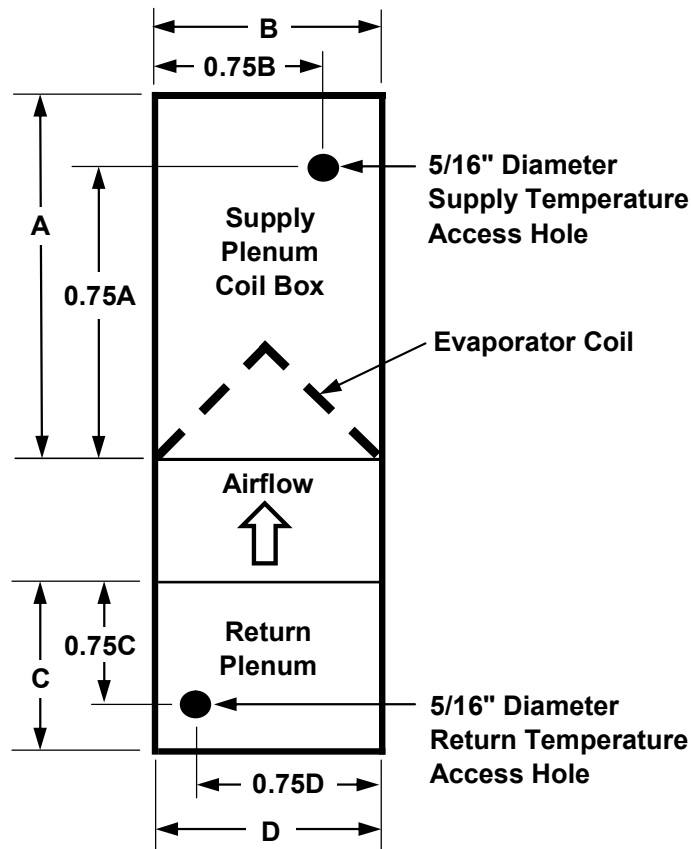

Figure 3.3 Supply and Return Plenum Temperature Sensor Access Hole Locations
5. For split systems two temperature measurement sensor access holes are required, one in supply and one in return plenum. Each location shall have a 5/16" (8 mm) diameter hole. Temperature measurements shall be taken at locations shown in **Figure 3.3**.